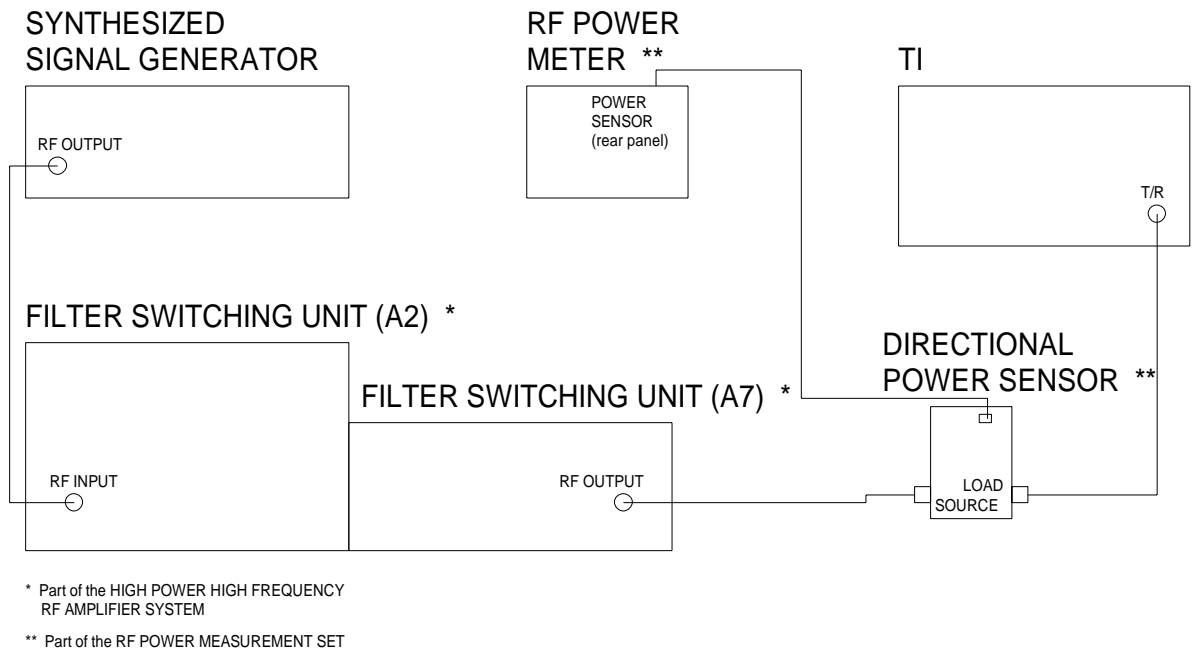

Figure 1A.
4.10A.1 Connect equipment as shown in Figure 1A.